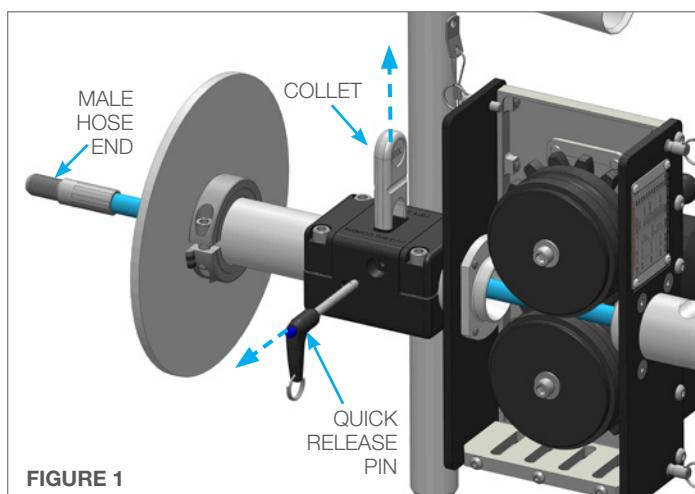
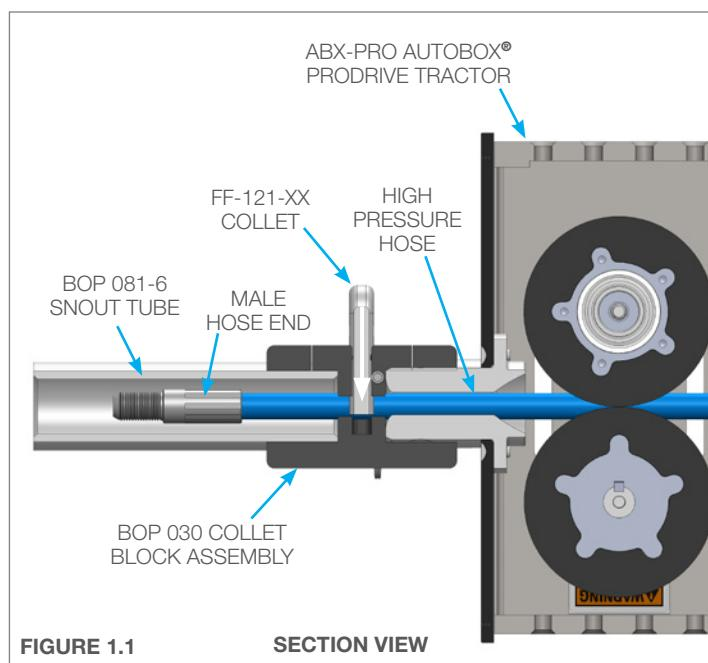

FIGURE 1
FIGURE 1.1
- Once the appropriate Collet size for the hose diameter is selected, pull the Quick Release Pin and remove the Collet. Feed the Male Hose End through the ABX-PRO AUTOBOX® PRODRIVE TRACTOR, BOP 030 Collet Block, and BOP 081-6 Snout Tube. (**Figure 1**) Replace the Collet and Quick Release Pin. Pull back on the hose to ensure the Male Hose End does not back out past the Collet. (**Figure 1.1**)
1. Open the back cover of the ABX-PRO Tractor by pulling the top two Quick Release Pins in the outward direction. (**Figure 1**)
1. Choose an alternate size or replacement set of Poly Rollers by using the reference chart in the section below to select the proper sizing. Slide the Poly Rollers onto the Hubs. Then fasten the Hub Outer Plates and Roller Washers onto the Spline Load Rollers with the two 5/16" socket head cap screws. (**Figure 1**)